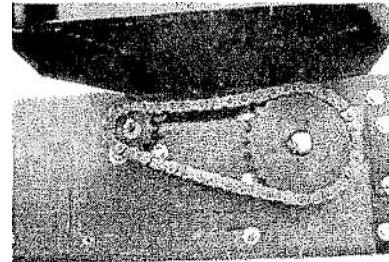

Fig. 4-1 Inspect the chain and adjust the chain tension
3.) Inspect the chain drive sprockets located at the top end of the conveyor (see Fig. 4-1).on the inside of the conveyor frame, for true alignment and correct chain tension. Realign the sprockets and tighten the set of screws as necessary. Press the chain with your thumb midway between the sprockets. You should be able to move the chain about V2 inch with thumb pressure. Tightening the chain too tightly can damage the bearings. Lubricate the No. 60 roller chain on the chain drive. (CM) recommends a multi-purpose lubricant such as a lithium-based spray grease.